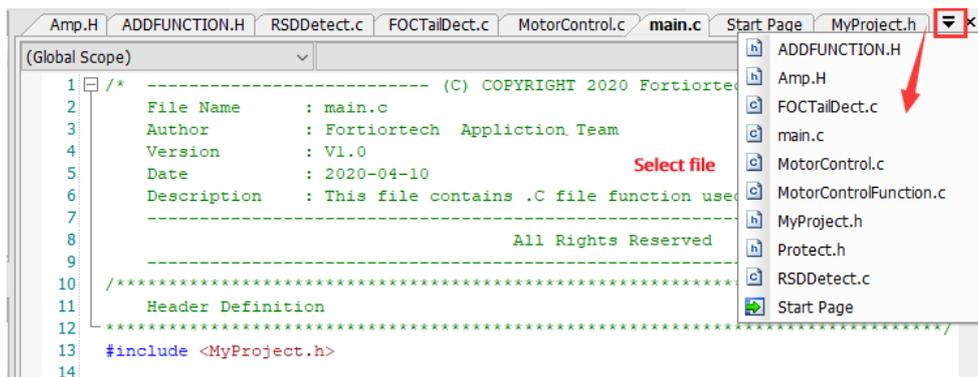

Figure 3-10
- If there are too many open files and you don't want to close them, you can select them in the way shown in Figure 3-10.